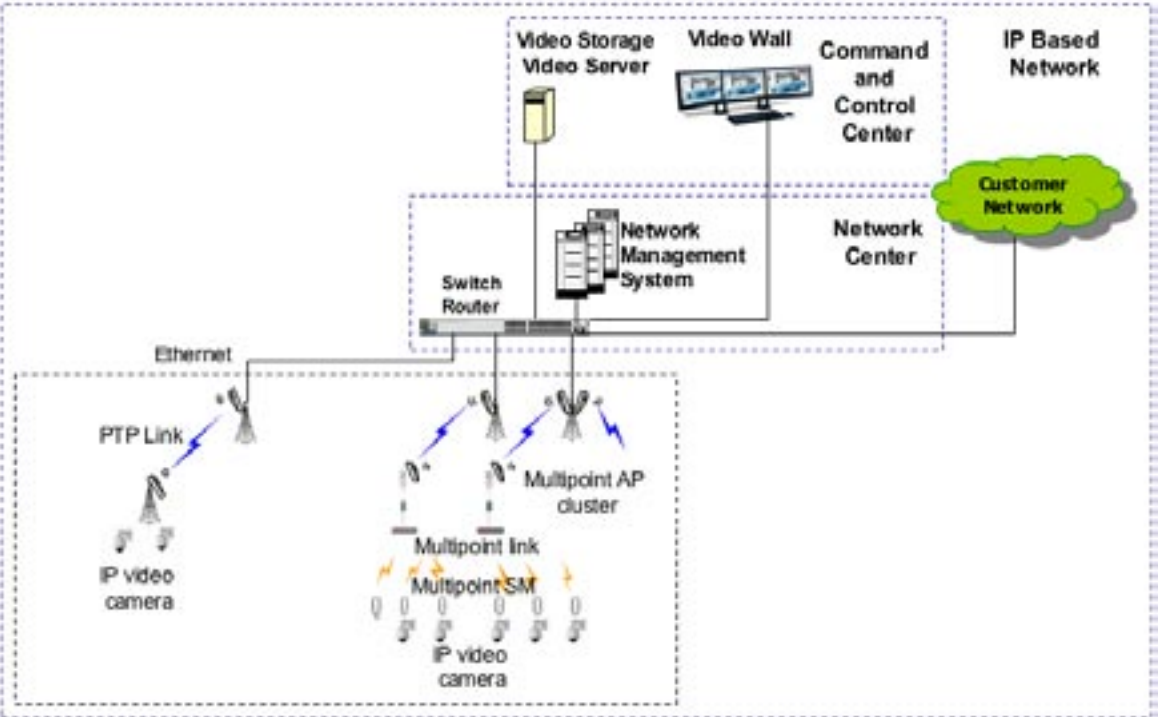

Figure 2. General IP Based Video Surveillance Architecture
*All IP Based Networks.* Where CCTV surveillance networks do not yet exist, network operators have the opportunity to create a new, completely IP-based surveillance solution that minimizes cost of installation and time to deployment while maximizing performance. Figure 2 highlights an all IP based video surveillance architecture.